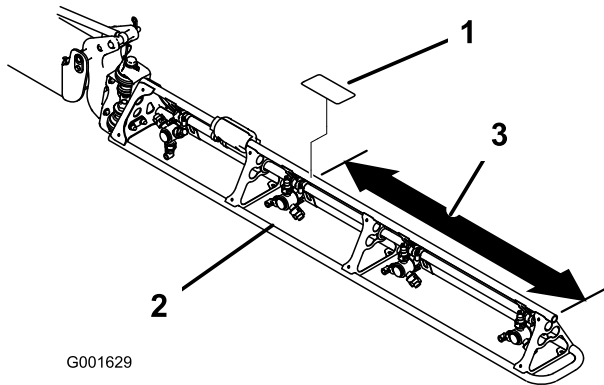

Figure 6
1. Measure from the end of the booms as shown in Figure 6.
3. Remove the backing of the new decal and place onto the boom (Figure 6).